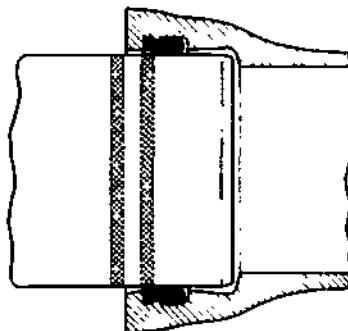

Figure 14-1. Cross-Sectional View of Tyton Joint
f) The pipe and fittings mostly in use are assembled with a compression joint, which the pipe manufacturer calls Tyton Joint, as illustrated in Figure 14-1.
Push the entering pipe until the first painted stripe disappears and the second stripe is about flush with the face of the hub. (See Figure 14-1 in this part of the manual.) The joint is now ready for testing.